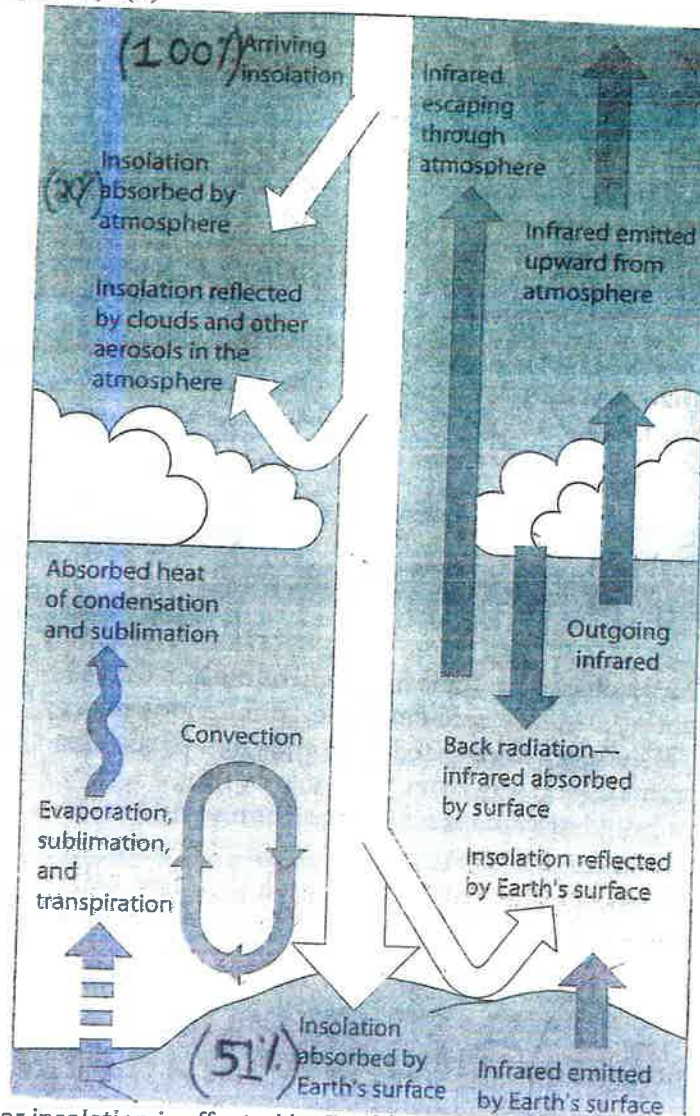

Figure 3: How solar insolation is affected by Earth's components.
2. Before solar radiation comes in contact with us living here on the Earth's surface, it must first pass through the atmosphere. **Insolation** is the amount of solar electromagnetic energy that hits Earth's outer atmosphere. It is comprised of 47% infrared radiation, 46% visible light, and 6% ultra violet radiation. Insolation is greatly altered by our atmosphere as only 50% actually makes it to Earth's surface. Most UV and other shorter wave radiation is absorbed in one of Earth's upper atmospheric layers (stratosphere) by an oxygen gas (ozone) that resides there (the ozone layer). Infrared and other short-wave radiation is also absorbed but by different atmospheric gases such as water vapor, carbon dioxide (CO₂), and methane. Insolation can also be reflected back to space by clouds, decreasing the amount of solar radiation we receive even further (See Figure 3). (3)